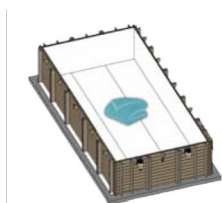
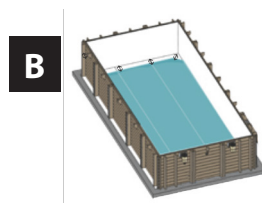

Fig. 14
Fig. 15
- B** Position the liner in the center of the pool (see figure 14), then unfold it from there (figure 15). Evenly distribute any excess between the liner and the pool structure all the way around.